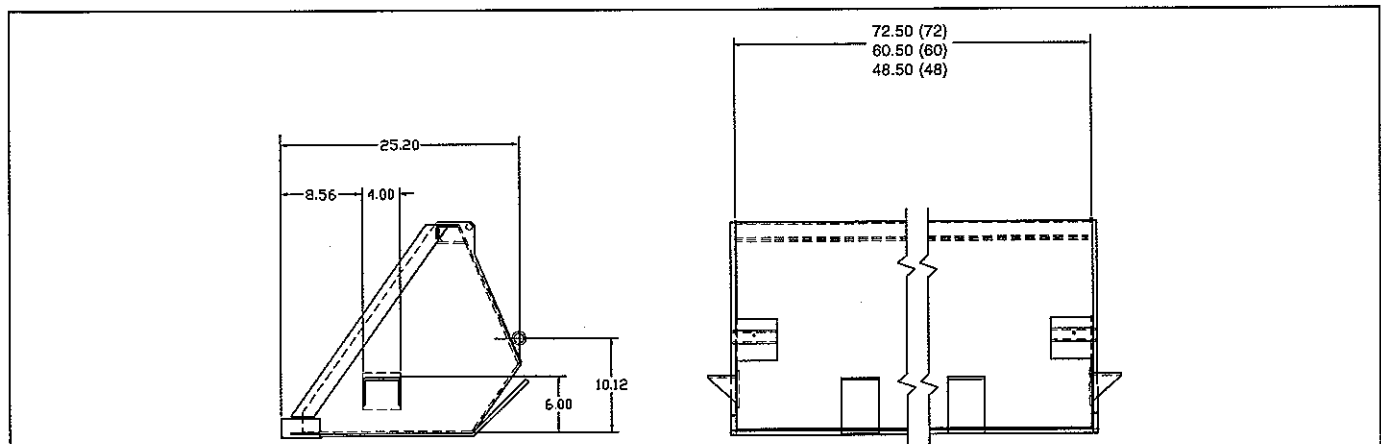

figure 1
1. Locate brackets on the bucket as shown in figure 1. Transfer punch and then drill holes. Use a 13/32 in. bit on the side brackets and a 17/32 in. bit on the rear brackets.